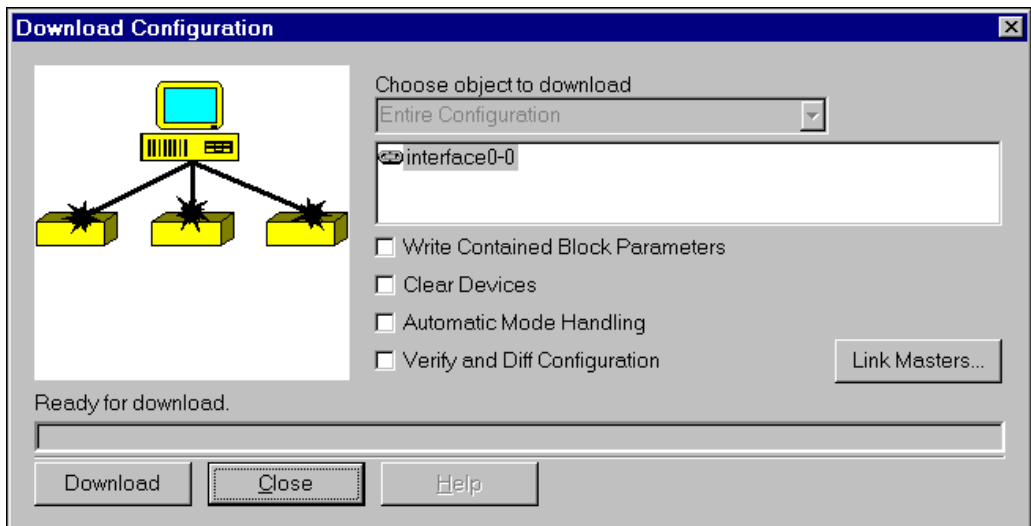

Figure 3-2. Downloading Configuration Dialog Box
3. To download this schedule to the device, select **Configure»Download Configuration**. The dialog box shown in Figure 3-2 appears. This dialog box enables the configuration to be downloaded. Go through the download process, as described in the documentation that came with your configurator. Since the block is not scheduled when you start the download, its actual mode does not change until the download is complete.